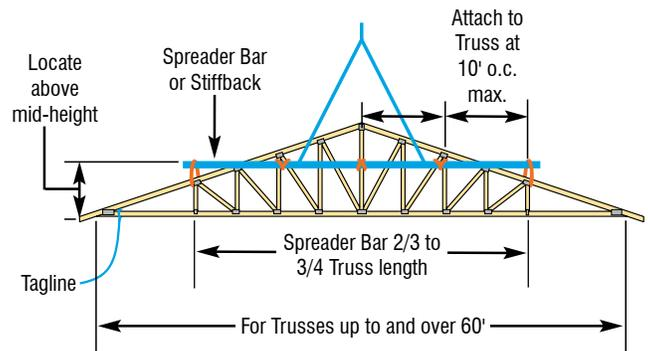

FIGURE B2-49A
- Have all necessary lifting equipment and building materials on hand. Make sure the crane operator understands the special hoisting requirements of Long Span Trusses (see Figures B2-49A and B2-49B).